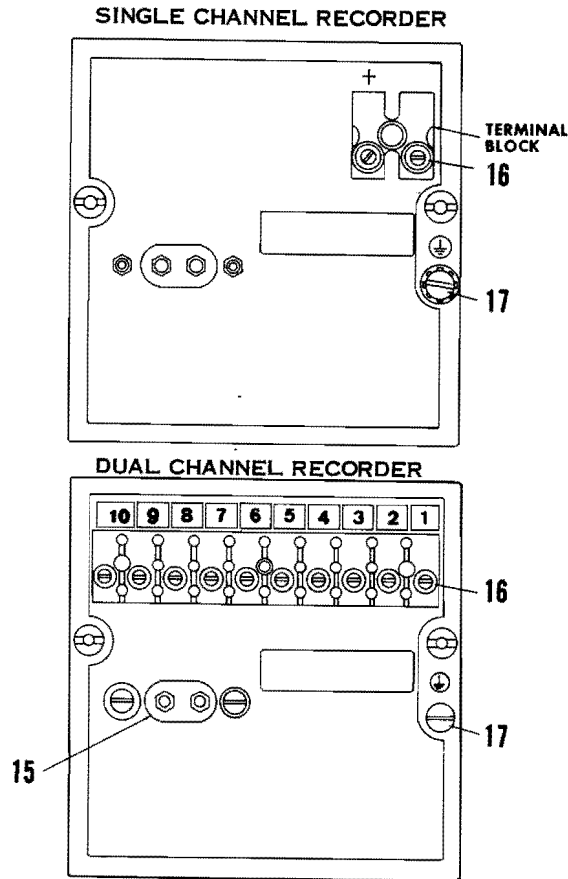

Figure 3-3. Rear Panels
NOTE: Items 15, 16 and 17 correspond with call-outs in Figure 3-3.
17. Ground Screw Terminal (Fig. 3-3)
Ground the Instrument case before connecting to power line. This connection will be automatic if the electrical outlet is the 3-wire type (third wire grounded), conforming to the latest electrical code, and with the third wire (green) connected to ground terminal 17 (see Figure 3-3). If power comes from a 2-wire system and a 3-prong-to-2-prong adapter is used, make sure that the third wire (ground) from the adapter is connected to power line (earth) ground.
Install the line cord into the recessed power cord plug (refer to Table 3-1, item 15) on the rear panel, and connect the green lead to the ground terminal (Figure 3-3, item 17) on the case.